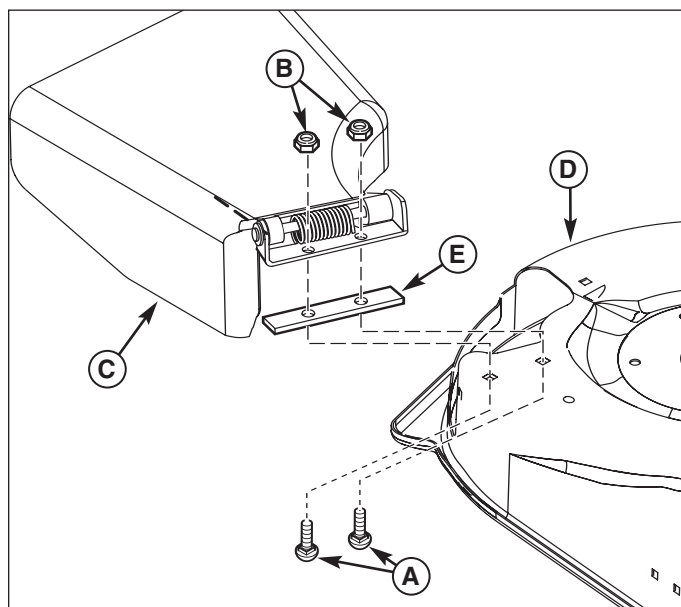

Figure 3. Install Deflector & Hinge Assembly and Shim
2. Place shim (E, Figure 3) between deck (D) and deflector & hinge assembly (C) as shown. Secure with carriage bolts (A) and locknuts (B).